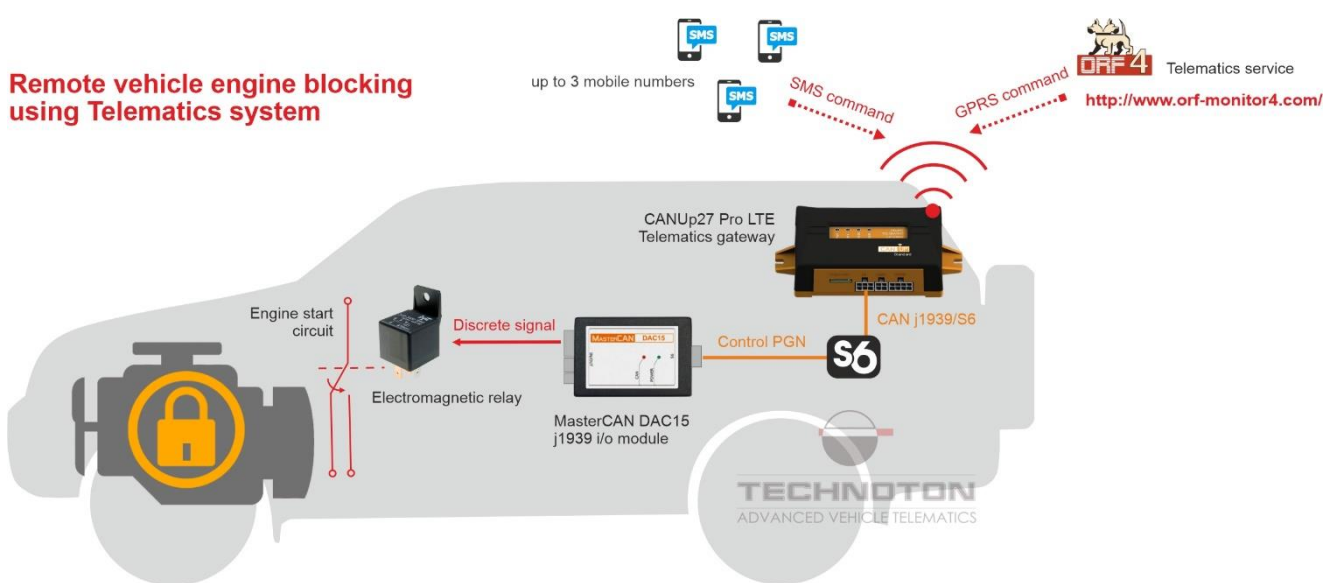

Figure 1 — The principle of operation of remote engine blocking system
**Operation principle:** For remote blocking of vehicle engine, an electromagnetic relay with normally closed contacts is used, installed, for example, in electrical circuits for controlling engine start or fuel supply system. The relay contacts are opened by the discrete output signal of MasterCAN DAC 15 digital-to-analog converter, generated upon receipt of a CAN control message from the CANUp27 Pro LTE telematic gateway connected to the converter over CAN j1939/S6 interface. The gateway generates a control message upon receipt of a corresponding GPRS command from ORF-4 / ORF-5 Telematics service or a special SMS message from any of 3 authorized phone numbers (see figure 1).